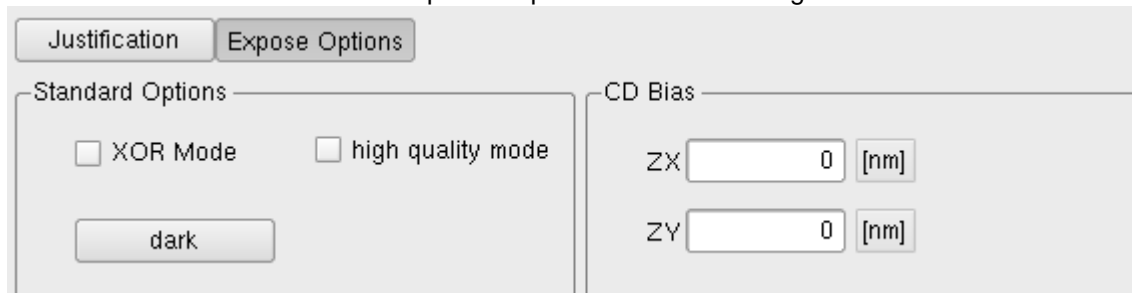

Figure 12: The expose tab option.
8. The next step is to click on the ‘expose options’ tab in the GUI HIMT Convert menu on the left hand side of the screen. The exposure options are shown in Figure 12.